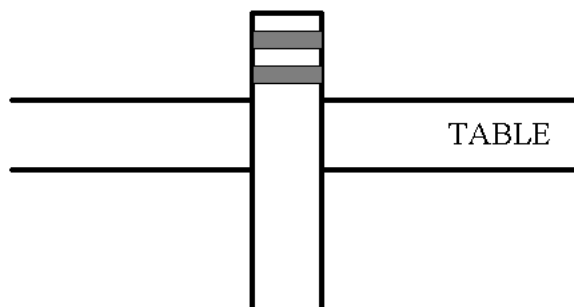

Figure 12
- (a) *Secure-it* has asked you to design a working model that could be used in an exhibition. The model will be table mounted and the bollard and the table surface are shown in **Figure 12**.
Complete **Figure 12** to show a suitable pneumatic system to give a *continuous* slow up and down movement.